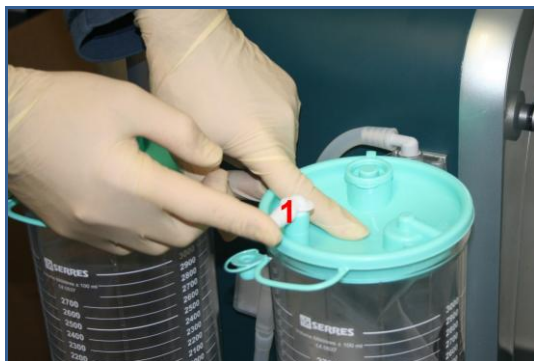

Fig. 4-14: Close the suction bag
Attach the lid of the suction bag using vacuum pressure. Close the angle connector (K) with your finger and slightly press on the center point of the suction bag's lid (Fig. 4-14). The lid of the suction bag must sit air-tight and flush in the suction container.
Make sure by closing the angle connector (K) of the suction bag with your finger that the required vacuum has been built up and the bag is completely unfolded (Fig. 4-14). Keep the angle connector (K) closed with your finger until the final vacuum has been reached. The final vacuum should be at least -850 mbar.